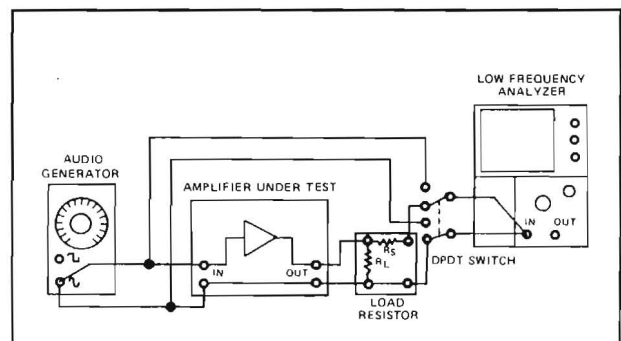

Figure 48 Sensitivity Equipment Setup
1. Connect the equipment as shown in Figure 48. The switch is convenient though not absolutely necessary for this measurement.